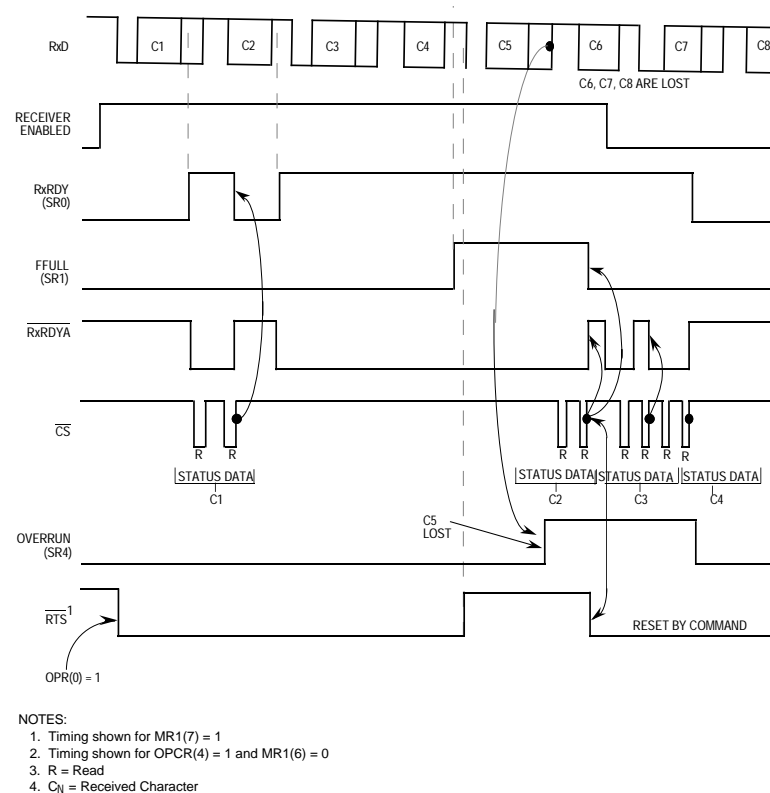

Figure 7-6. Receiver Timing Diagram
7.3.2.2 RECEIVER. The receivers are enabled through their respective CRs located within the serial module. Functional timing information for the receiver is shown in Figure 7-6. The receiver looks for a high-to-low (mark-to-space) transition of the start bit on RxDx. When a transition is detected, the state of RxDx is sampled each 16 \times clock for eight clocks, starting one-half clock after the transition (asynchronous operation) or at the next rising edge of the bit time clock (synchronous operation). If RxDx is sampled high, the start bit is invalid, and the search for the valid start bit begins again. If RxDx is still low, a valid start bit is assumed, and the receiver continues to sample the input at one-bit time intervals, at the theoretical center of the bit, until the proper number of data bits and parity, if any, is assembled and one stop bit is detected. Data on the RxDx input is sampled on the rising edge of the programmed clock source. The least significant bit is received first. The data is then transferred to a receiver holding register, and the RxRDY bit in the appropriate SR is set. If the character length is less than eight bits, the most significant unused bits in the receiver holding register are cleared.